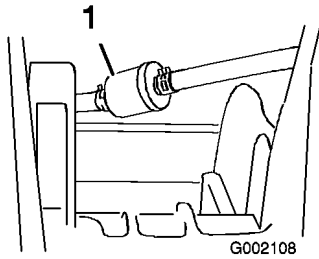

Figure 37
3. Remove the clamps securing the fuel filter to the fuel lines (Figure 37).